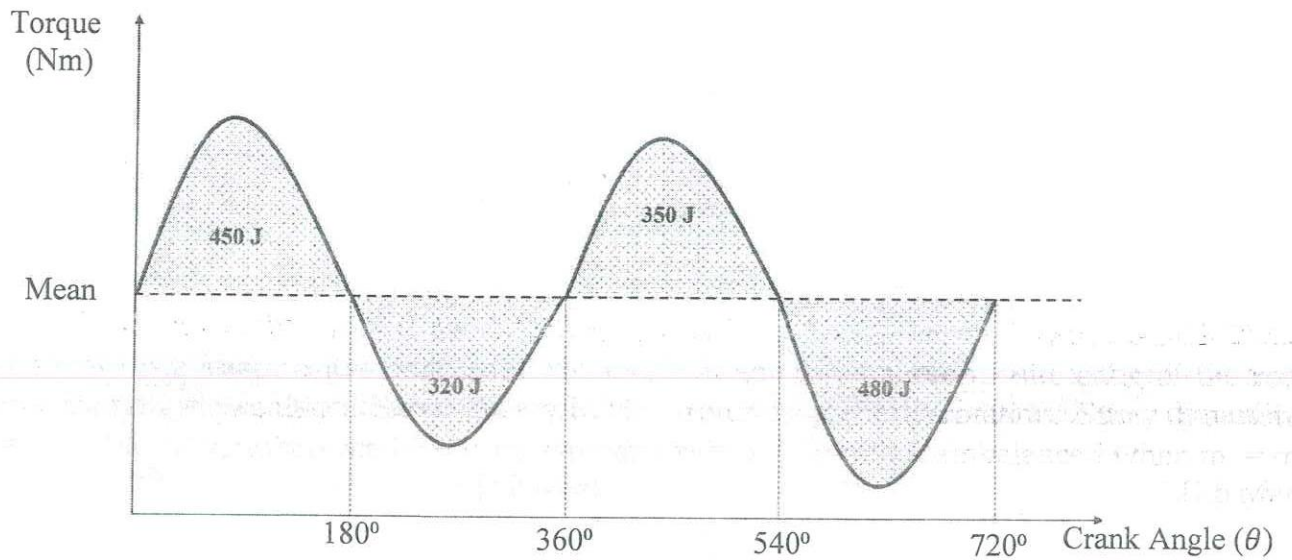

Figure Q2(b): Torque - Crank Angle diagram for a crank piston engine
- (b) The Torque - Crank Angle diagram for a crank piston engine is given in **Figure Q2(b)**. The work done during each step is indicated in the diagram, and the crankshaft needs to maintain a speed within the range of 420 - 450 rev/ min.